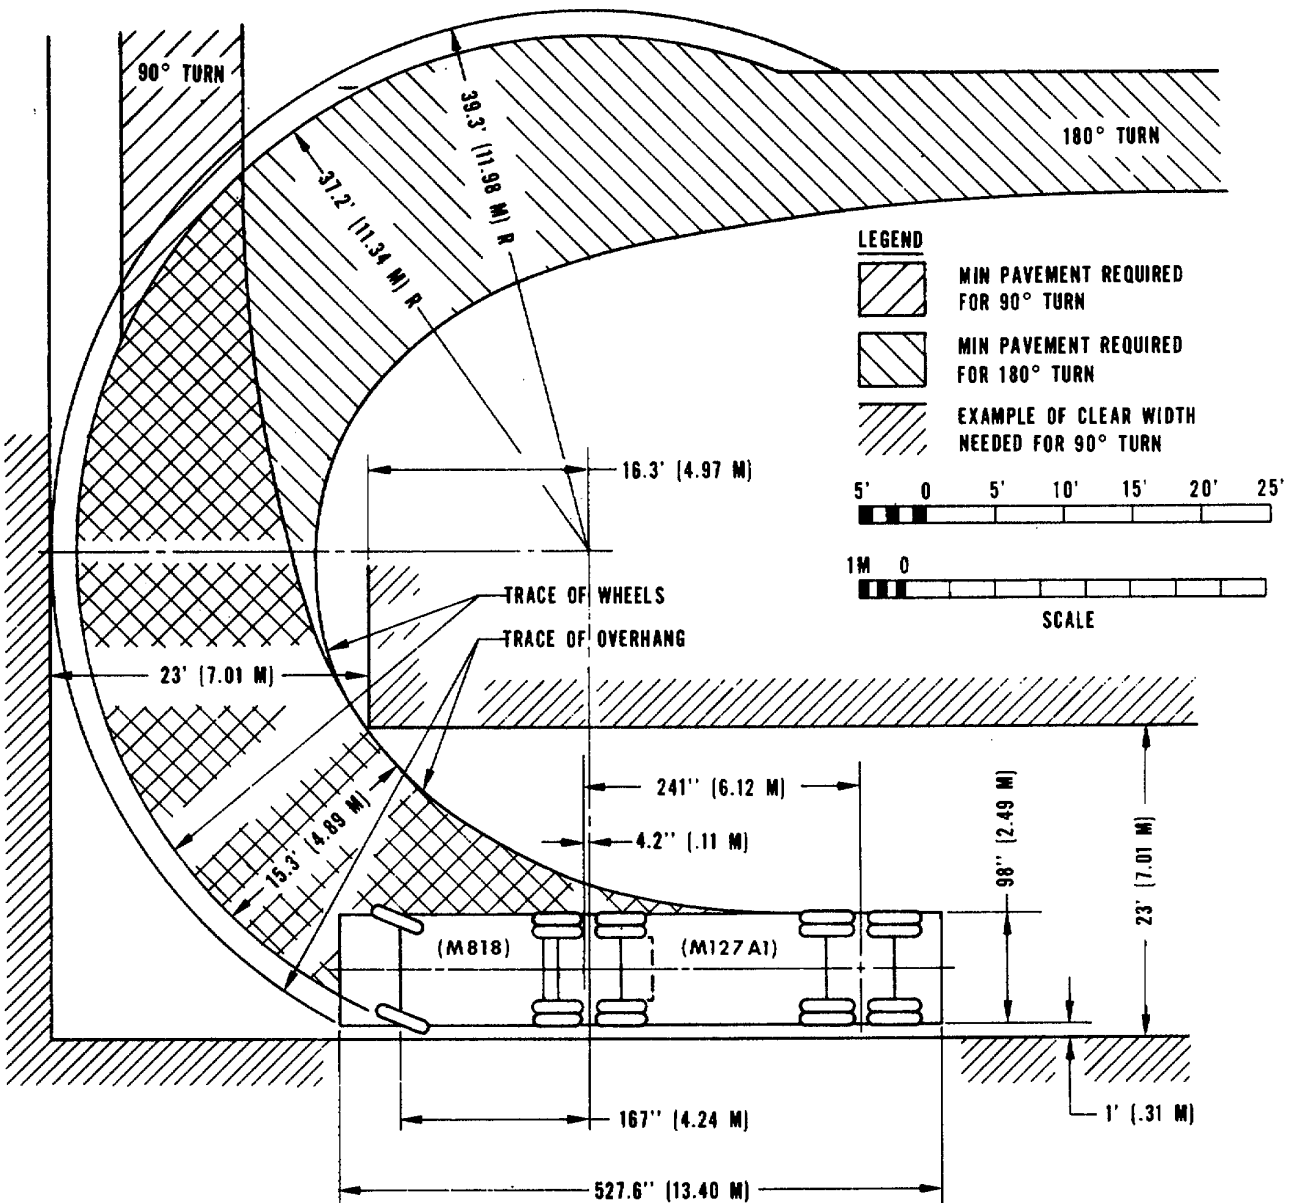

Figure 5-4. Turning diagram for the M127A1 semitrailer towed by the M818 truck-tractor.
e. *Turning Diagram.* Figure 5-4 is a turning diagram for the M127A1 semitrailer towed by the M818 truck-tractor.